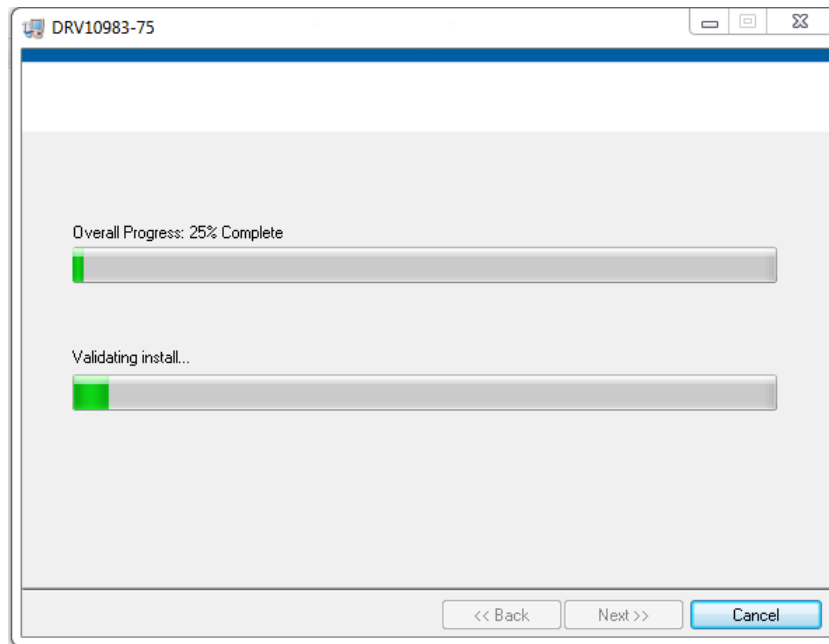

Figure 15. GUI Installation in Progress
6. The installer begins self-extraction and proceeds with the installation as shown in Figure 15.